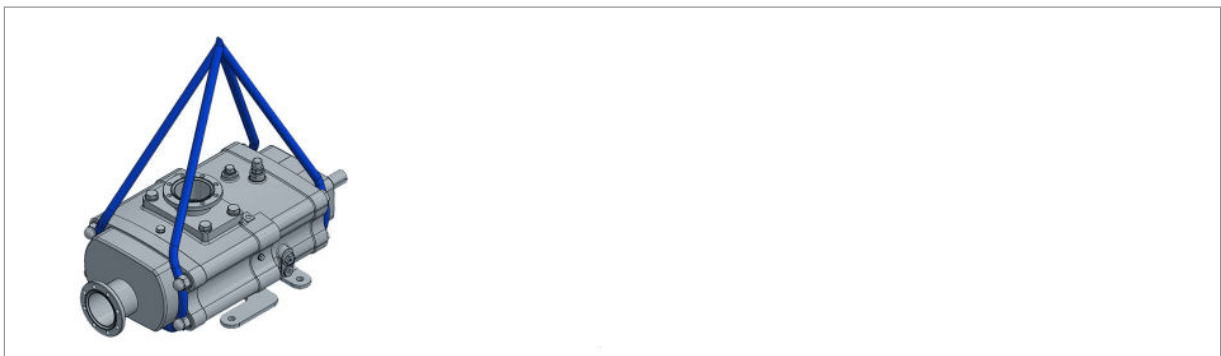
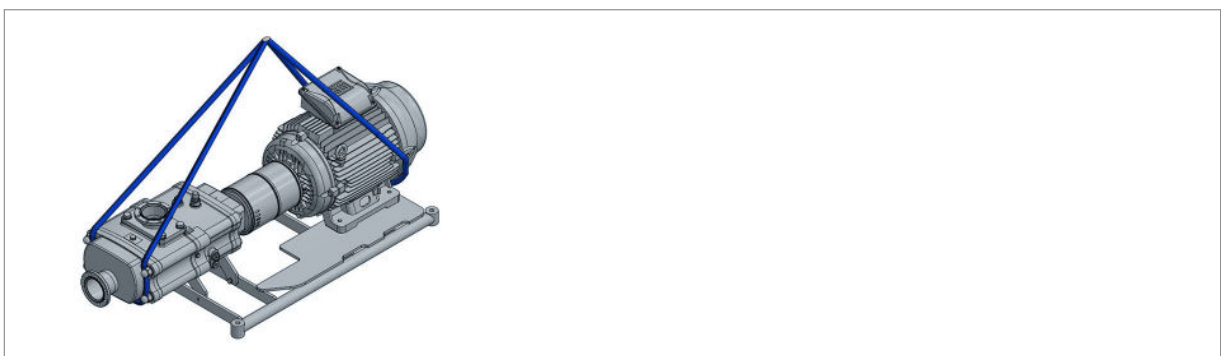

Fig. 4: Lifting the pump
Fig. 5: Lift the pump assembly
1.  Fasten cables, straps or multi-point hangers in accordance with *Fig. 4* or *Fig. 5*.